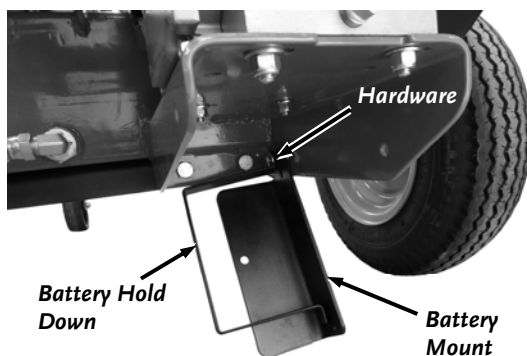

Figure 20
32. **The following steps are for Electric Start only:** Position the Battery Mount and Hold down under the Engine and install a Bolt, Washer (each side) and Locknut closest to the axle by hand (**Figure 20**).